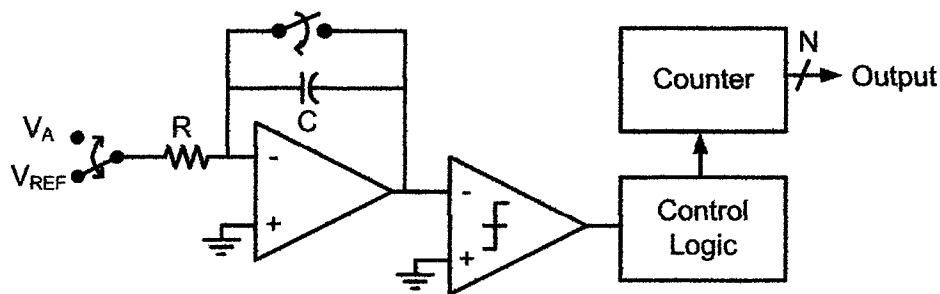

Figure 3: Dual-slope ADC.
- If the ADC is implemented using a dual-slope ADC (as shown in Fig. 3) with  $R = 1 \text{ k}\Omega$ ,  $C = 3.95 \text{ pF}$ , and  $f_{clk} = 10 \text{ MHz}$ , what is the maximum possible value of  $V_{PEAK}$ ? [4]